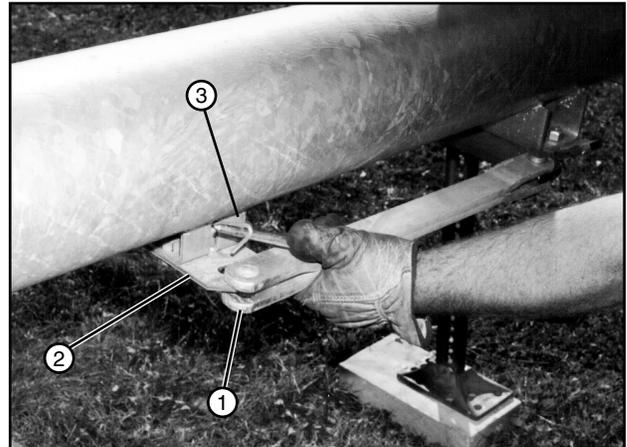

Figure 67-2 1. Tow Link Bar
4. Rotate the tow link bar into the tow link carrier until the carrier spring latches into the hole in the tow link bar. See Figure 67-2.